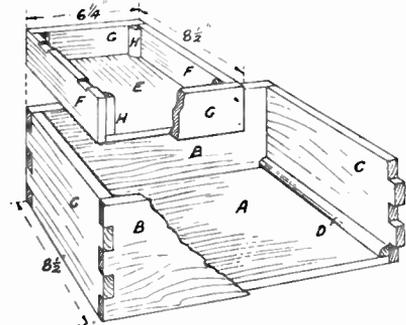

Fig. 2—A cut-away drawing showing construction
The box measures  $12\frac{1}{2}$  ins. long,  $8\frac{1}{2}$  ins. wide and 5 ins. high. It consists of a floor (A) (Fig. 2), two sides (B), and two
The construction of the trays is shown again in Fig. 2 and the sizes of the rails (F) and (G) which are all  $1\frac{1}{4}$  ins. wide are given in this diagram, the rails (F) going in between the rails (G) will be 8 ins. long, as all the wood for the trays is  $\frac{3}{8}$  in. thick. Here again, the floor (E) goes in between the rails (F) and (G), and is held by the angle fillets (H).